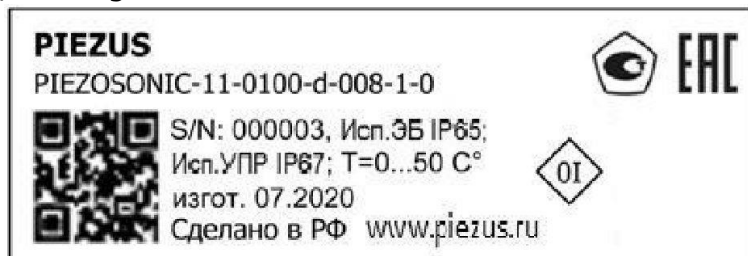

Figure 10.1. Example of identification sticker for EM
10.1.1 The Item can be identified by its manufacturing markings. The marking is made in a sticker on the side of the electronic module and contains (Figure 10.1) as follows: